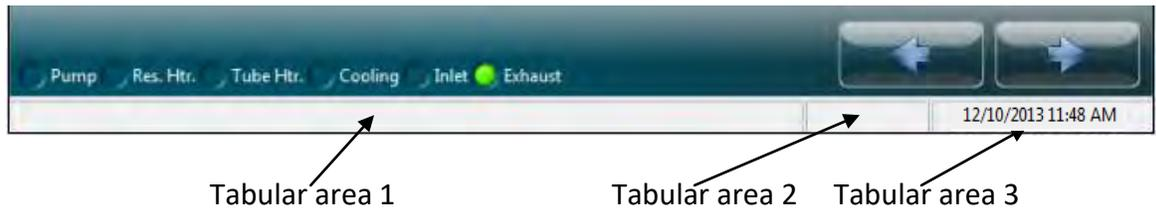

Figure 4-10 – Message bar tabular areas
The message bar is divided into three (3) tabular areas that keep the operator informed on what the machine is doing (figure 4-10).